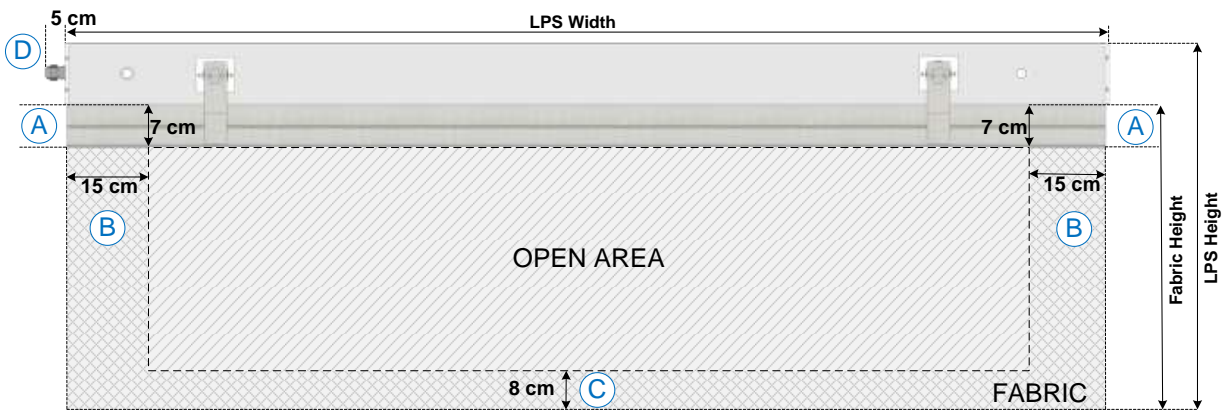

figure 3. Fixing the aluminium frame.
Step 3: The "LPS" was developed with some predefined installation specifications, as shown in Figure 3. There is a minimum open clearance area at point A and B.